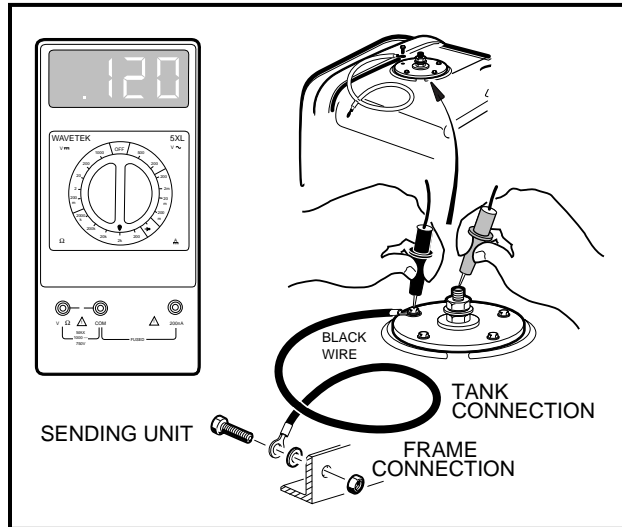

Figure 11-43 Test Fuel Level Sending Unit
3. With a multimeter set to 2 k Ω (ohms), place the red (+) probe of the multimeter on the center post of the sending unit. Place the black (–) probe on the ground connection of the sending unit (**Figure 11-43, Page 11-36**).